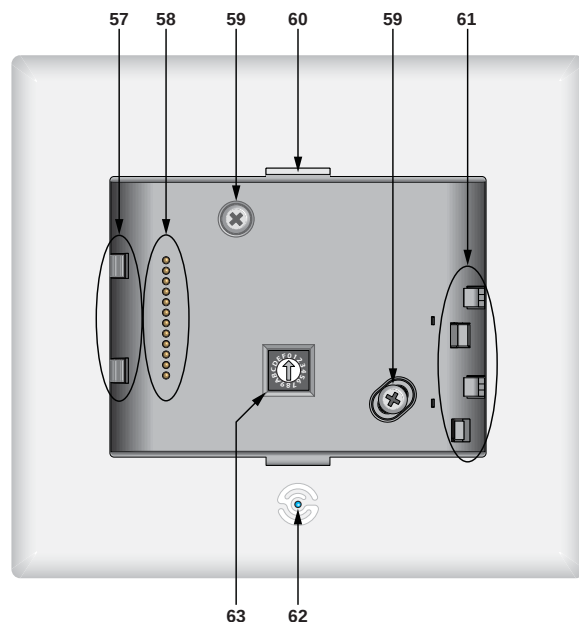

Figure 10
- 60. DOOR HANDLE** - Molded Tab allows opening and closing the Wall Dock Door. The door can be closed when the MODE Free is undocked. (Figure 10 shows in door open position; Figure 12 shows closed position.)